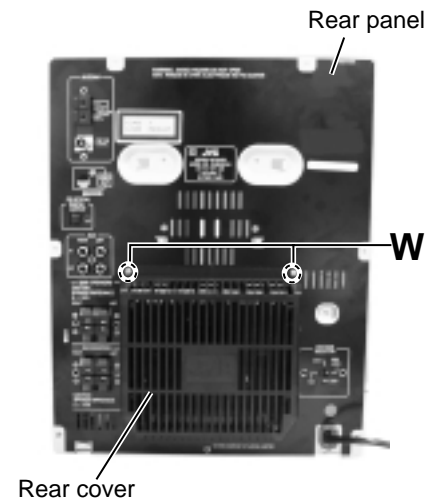

Fig.26
■ Removing the rear cover / rear panel (See Fig.26 to 29)